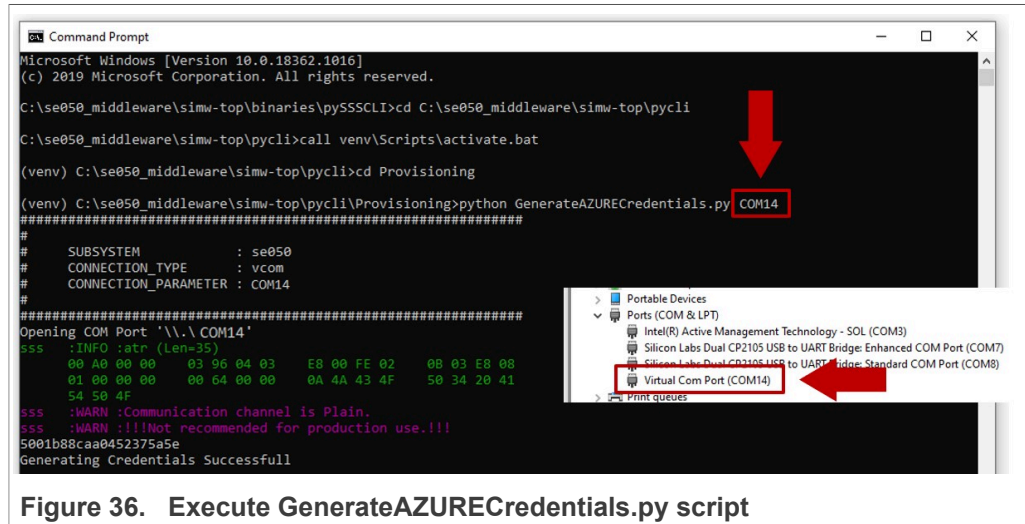

Figure 36. Execute `GenerateAZURECredentials.py` script
- Execute the `GenerateAZURECredentials.py` script. This script generates the necessary keys and certificates in your local machine. (Figure 36) `>> python GenerateAZURECredentials.py <COM_NUMBER>`, where `<COM_NUMBER>` is the number assigned in your device manager: